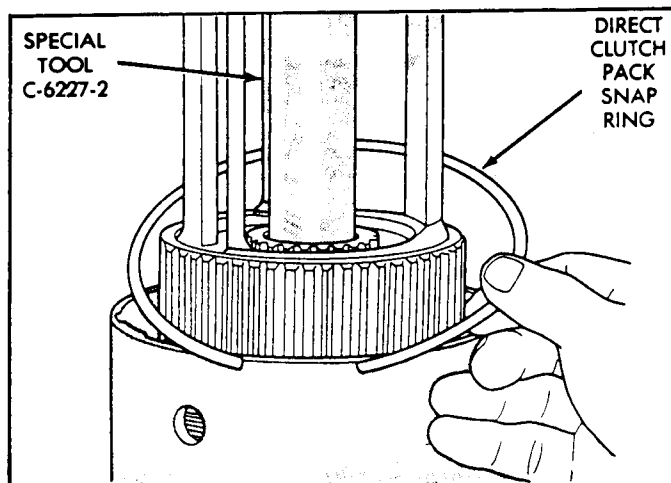

Figure 20
30. Install the direct clutch snap ring, as shown in Figure 20, and "Ensure" that snap ring is fully seated in snap ring groove.